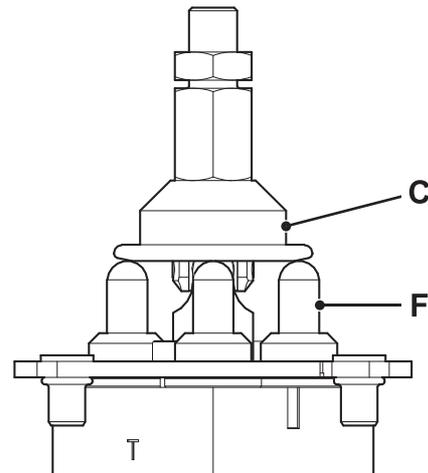

Fig 17.
- 5 Tighten the capscrews (D) to a torque of 9.5 Nm (7 lbf ft).
- 6 Install the rocker plate (C) on the joint assembly mechanism. Put the rocker plate into the correct position so that it touches the plunger assemblies (E) and does not displace them. ⇒ Fig 17. (□ D-17).
- 7 Install the handle stem (B).